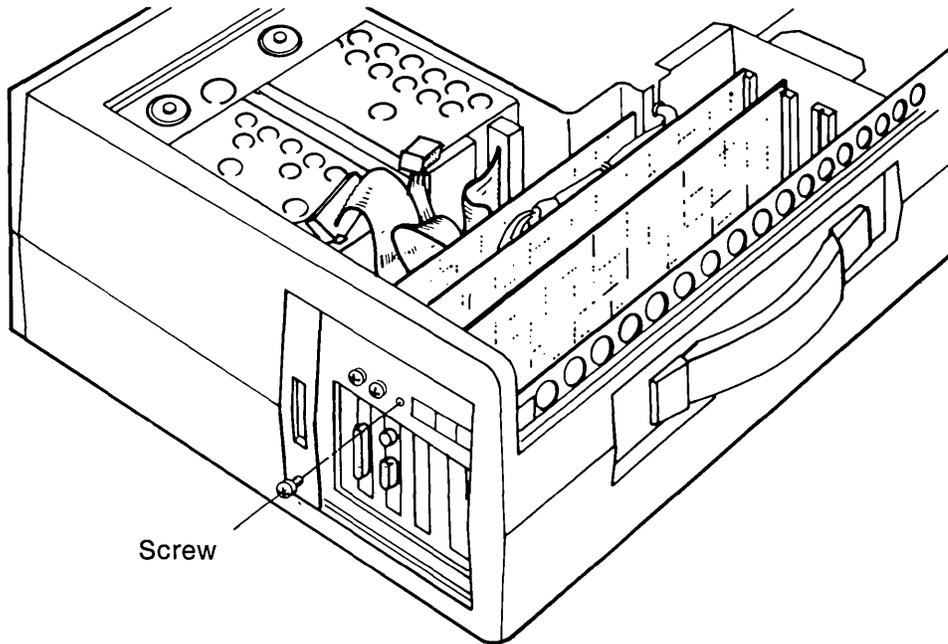

Figure 10-6. Removing the Screw Which Holds the Fixed Disk Adapter Board.
- 5 Remove the retaining screw that secures the fixed disk adapter board assembly to the system chassis (see Figure 10-6).